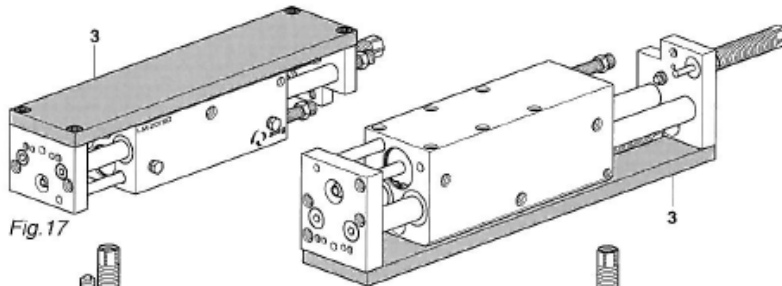

Fig. 17
(Fig. 17) **Base plate LM 20/25**; With the help of the base plate (3) can realize a portal module. The base plate also serves to stabilize and the customer may be edited.